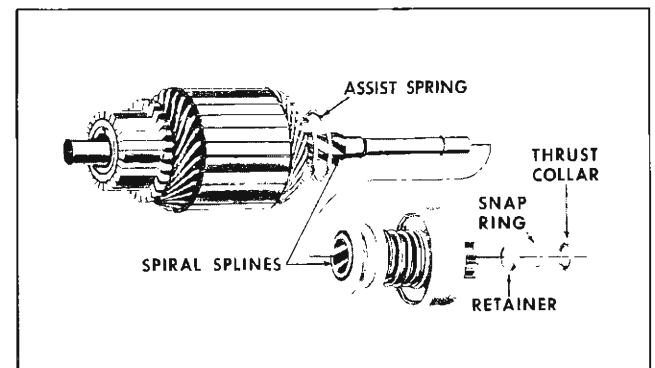

Fig. 11-6 Armature and Overrunning Clutch Assembly
- a. Slide thrust collar (Fig. 11-6) off end of armature shaft.